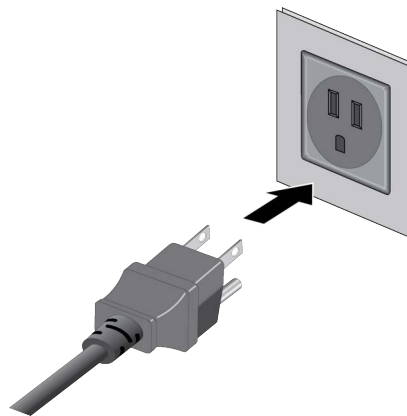

Figure 72. Connecting the Power Cord to an AC Power Source
4. Connect the power cord to an appropriate AC power source. Refer to Figure 72.